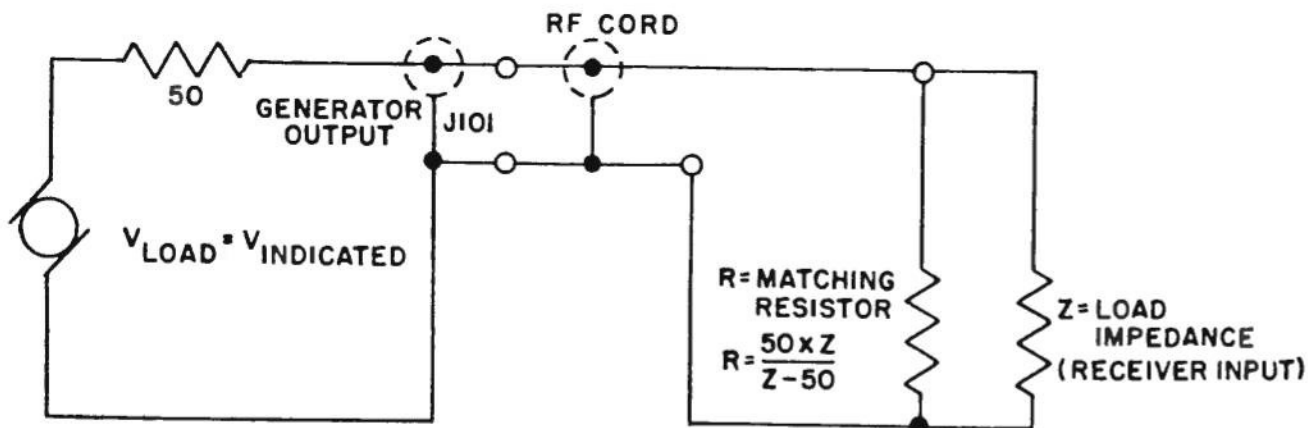

Figure 3-6. Equivalent Circuit of RF Output With Shunt Resistor Added.
d. EQUIPMENT WITH INPUT IMPEDANCE SOMEWHAT GREATER THAN 50 OHMS. - With receiver input impedance above 50 ohms, but considerably less than 500 ohms, a non-inductive composition resistor should be added in parallel to the receiver input (shunt) as shown in figure 3-6. The equivalent impedance of the shunt matching resistor and the load should equal the generator impedance (50 ohms). The receiver input voltage will then be equal to the meter indication. For example, if the receiver input impedance (Z) is 120 ohms, select the correct shunt matching resistor (R) as follows:
c. RECEIVER IMPEDANCE SOMEWHAT GREATER THAN 50 OHMS. — Where the receiver input is above 50 ohms, but considerably less than 500 ohms, and it is desired to show a 10:1 attenuation, connect the attenuator between signal generator and receiver, with a non-inductive composition resistor added in parallel to the receiver (shunt) as shown in input figure 3-6. The equivalent impedance of the shunt matching resistor and the load should equal 50 ohms. See paragraph 3-9d for method of determining shunt resistor value. Now, simply divide the microvolt reading of the RF OUTPUT dial by TEN.
d. RECEIVER IMPEDANCE BETWEEN 50 OHMS AND 500 OHMS. – Connect the attenuator to the signal generator as described in (c) above. Instead of the impedance matching network between the attenuator and receiver input, use appropriate shunt matching resistor as shown in figure 3-6. Now simply divide the microvolt reading of the RF OUTPUT dial by TWO. Unlike the 10:1 attenuator, the 2:1 attenuator is not a constant impedance device, and must therefore always be terminated in 50 ohms in order to reflect a 50 ohm impedance.